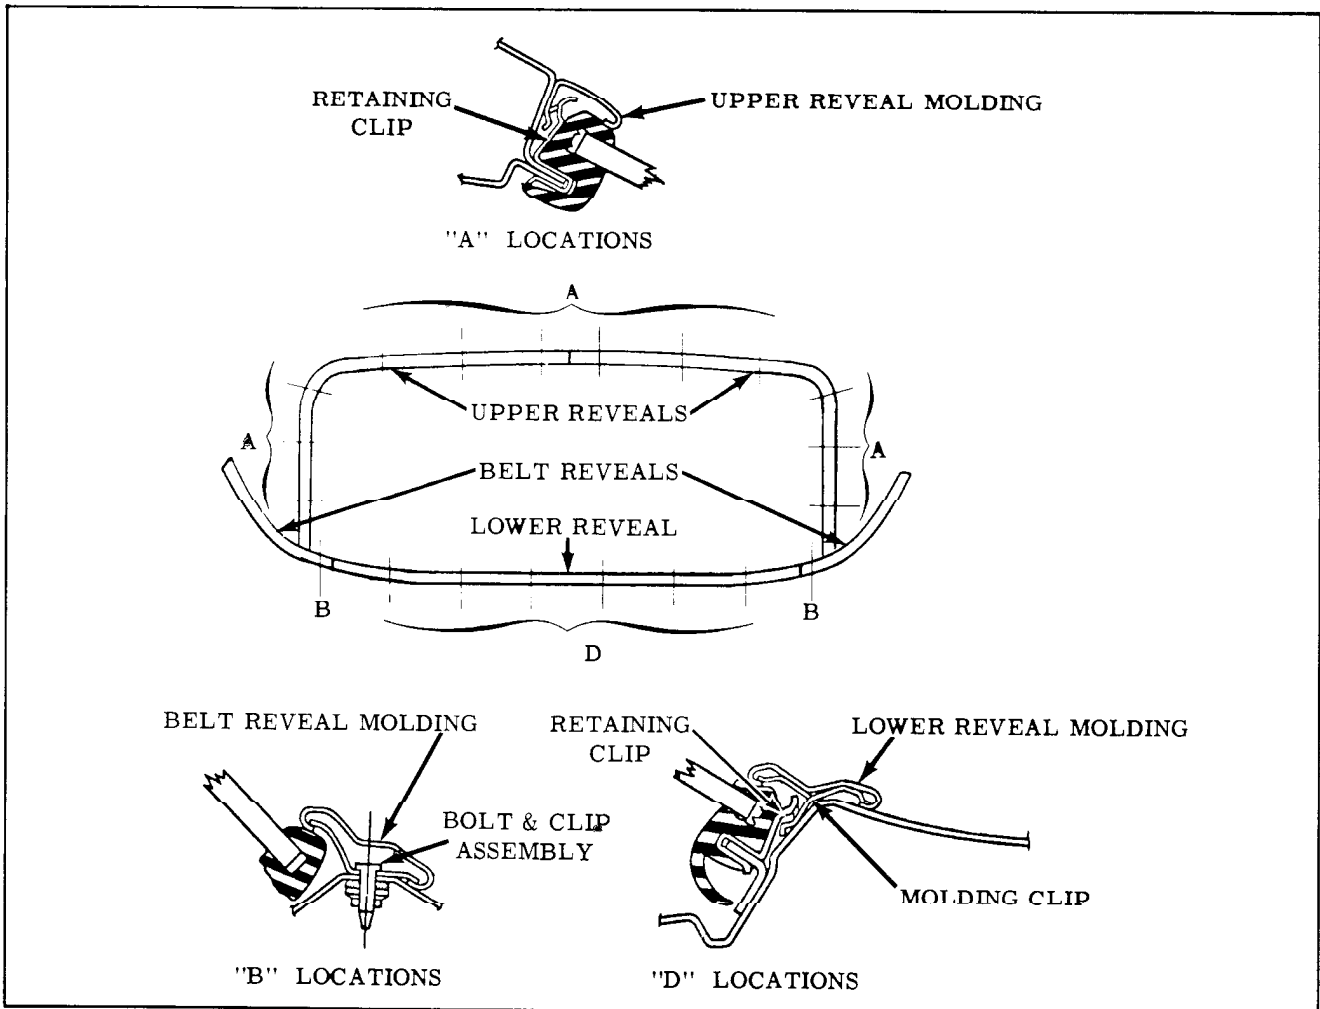

Fig. 17-13 Back Window Reveal Molding (3247, 3547, 3647 Styles)
Removal and Installation (Fig. 17-13)
- 3. Using Reveal Molding Tool J-7898-01 insert point of tool between molding and rubber channel and push or pull MOLDING CLIP sideways to slide it out of engagement from molding RETAINING CLIP. ("D", Fig. 17-13) Perform this operation at each molding clip location "D" and remove molding from body.